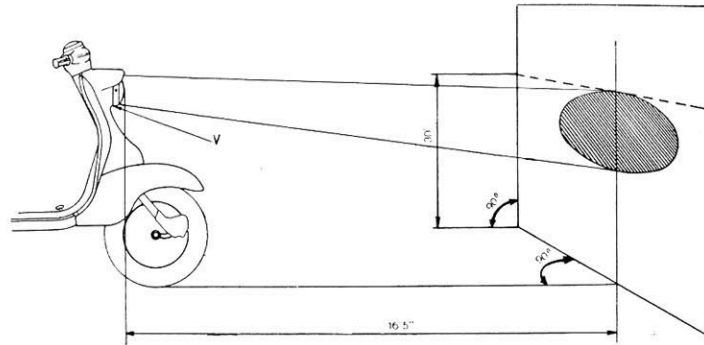

Fig. 44
- Place a vertical screen in front of scooter as shown in Fig. 44.